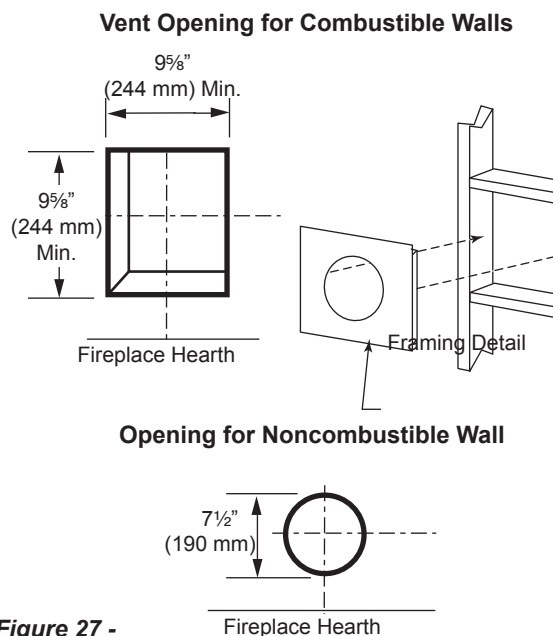

Figure 27 - Locate vent opening on wall. FP2293
Locate vent opening on the wall. It may be necessary to first position the fireplace and measure to obtain hole location. Depending on whether the wall is combustible or noncombustible, cut opening to size. *Figure 27* (For combustible walls first frame in opening.)
Combustible Walls: Cut a 9 5/8" H x 9 5/8" W (244 x 244 mm) hole through the exterior wall and frame as shown. *Figure 27*
1. Establish vent hole through the wall. *Page 19, Figure 27*